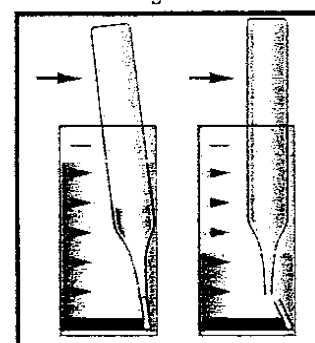

Figure 2
2. Place the CHEM Met ampoule in the sample cup. Snap the tip by pressing the ampoule against the side of the cup. The ampoule will fill, leaving a small bubble to facilitate mixing (fig. 2).